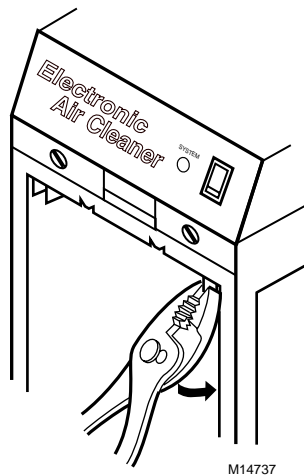

Fig. 15. Crimping prefilter guide.
- ❑ Crimp the end of the downstream (closest to the furnace) prefilter guide to prevent incorrect prefilter installation following cleaning. See Fig. 15.